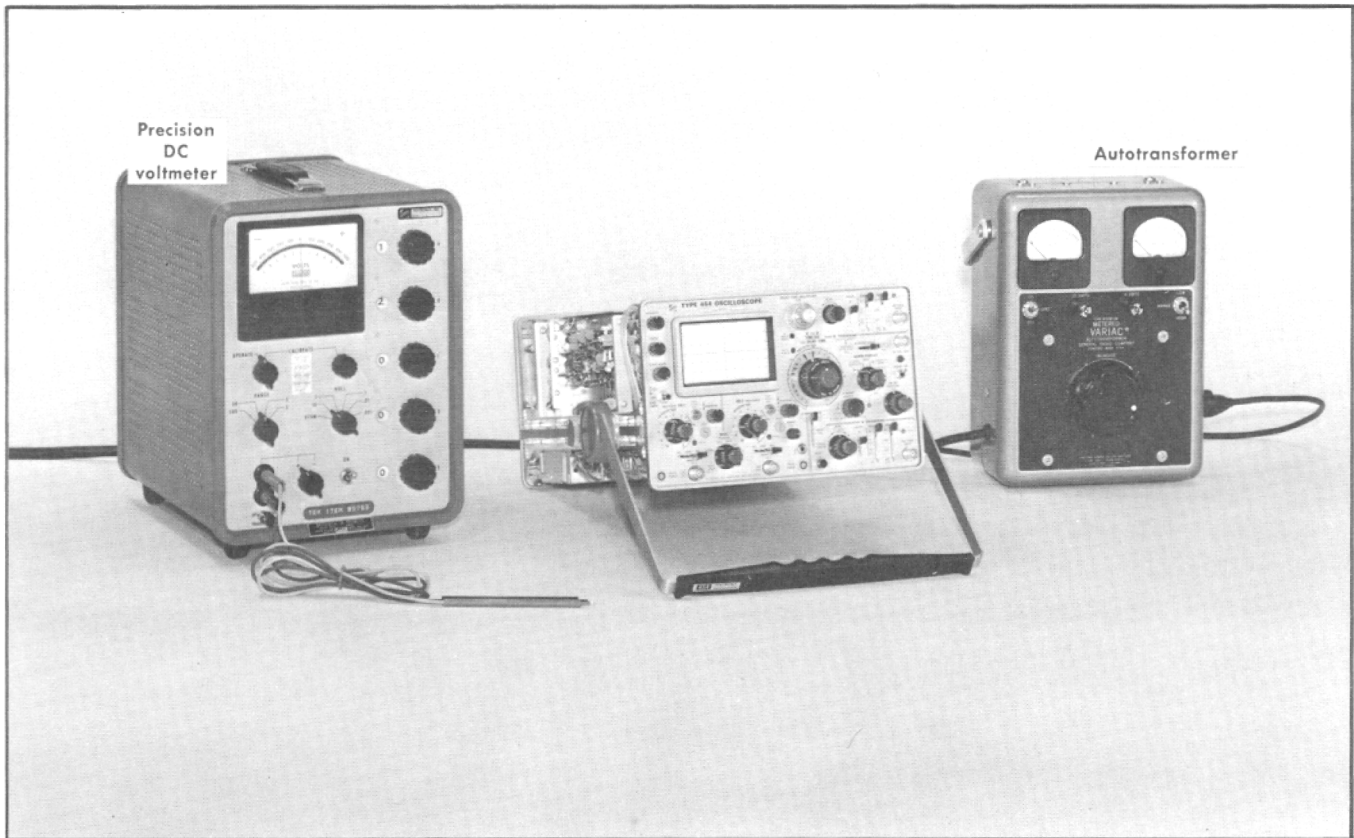

Fig. 6-3. Initial test equipment setup for steps 1 through 6.
1. Adjust —12-Volt Power Supply ❶
- a. Test equipment setup is shown in Fig. 6-3.